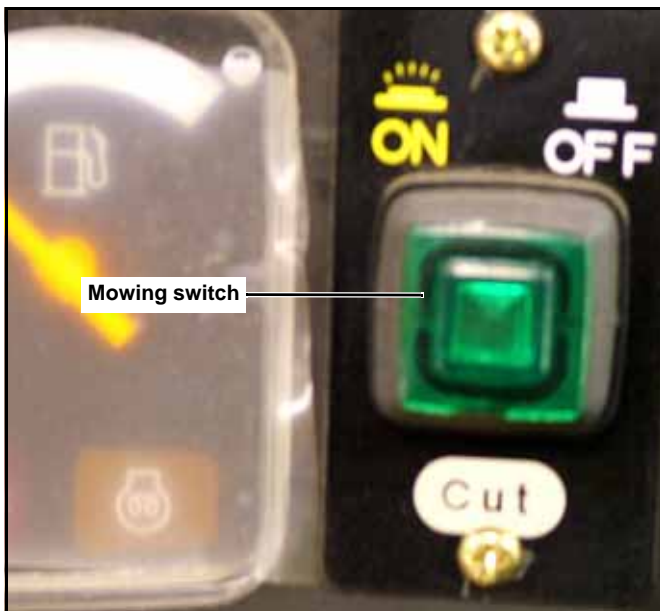

Figure 3-10
- G. Mowing switch (Figure 3-10) —** This switch is used to start and stop the cutting units. When the mow switch is pressed down and the switch light comes on, the mowing circuit is active. The reels will begin rotating when the cutting units are lowered to the ground into cutting position. If the mow switch is pressed again, the switch light will turn off, and the reels will shut off. If the cutting units are in the mowing position (lowered to the ground) and the mow switch is turned on, the reels will only start after the lift/lower lever is pushed to the lower position and released. When mowing the operator may move the lift/lower lever to lift and release it to cause the reels to come up to a level position off the ground and turn off. Pushing the lift/lower lever to lower and releasing it will cause the units to lower and turn on again. The reels may be lifted all the way to the transport position (with the mow switch activated) by holding the lift/lower lever in the lift position. In order to begin mowing again the lever will have to be held in the lower position until the reels have reached the ground. The one touch lift/lower function will again be activated